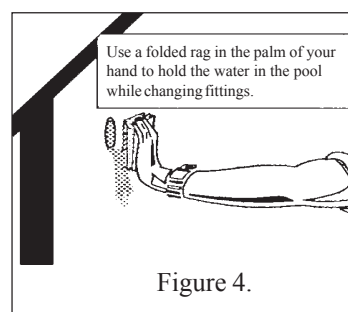

Figure 4.
8. Using a folded rag in the palm of your hand, push the old return fitting out of the wall from the outside of the pool; see Figure 4. Hold the rag firmly against the wall to prevent water spillage.